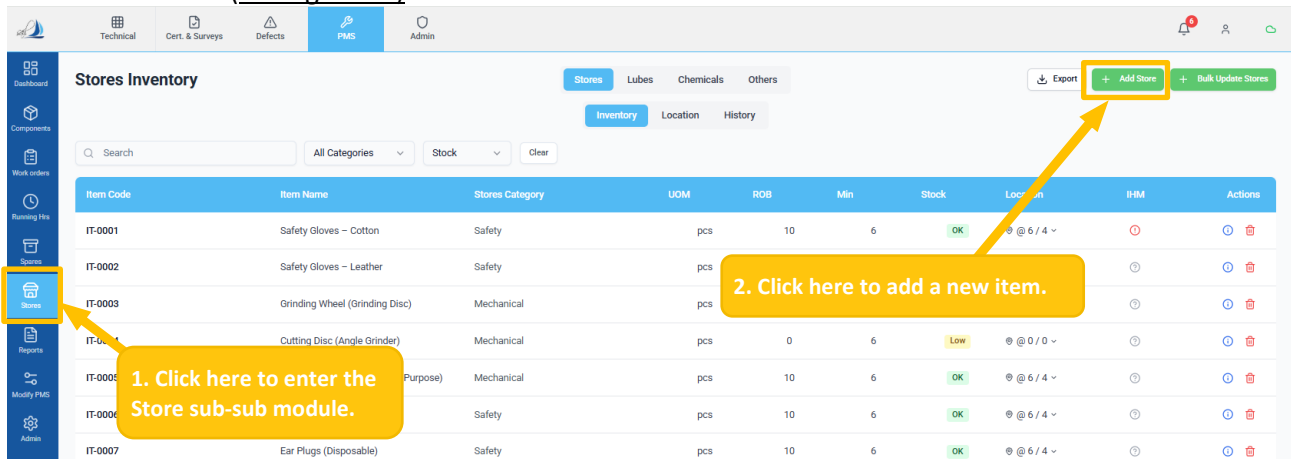

Figure 65
- Click the 'Store' sub-sub-module. (Ref Figure 65)
- Click on the '+ Add Store' button, provide the necessary details, and click Save Store Item to create a new store item. (Ref Figure 65)